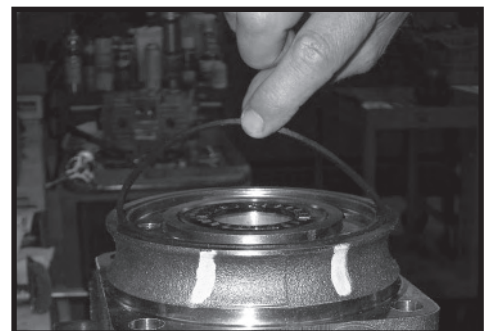

Figure 50
10. Apply a small amount of clean grease to a new seal ring (4) and insert it into the housing (18) seal ring groove. SEE FIGURE 50.
**NOTE: One or two alignment studs screwed finger tight into housing (18) bolt holes, approximately 180 degrees apart, will facilitate the assembly and alignment of components as required in the following procedures. The studs can be made by cutting off the heads of either 3/8-24 UNF 2A or 5/16-24 UNF 2A bolts as required that are over .5 inch (12.7 mm) longer than the bolts (1, 1A, 1B, or 1C) used in the Torqmotor™.**